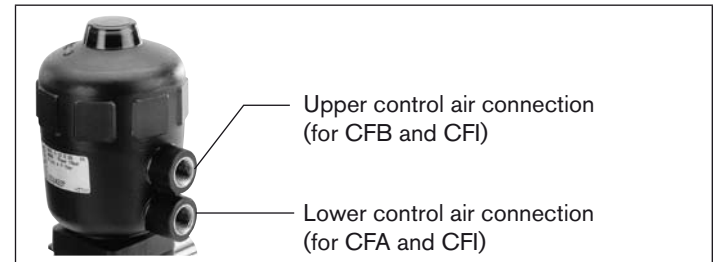

Fig. 5: Control air connection
- Pressurize lower control air connection with compressed air (value as indicated on the rating plate) (see "Fig. 5: Control air connection").